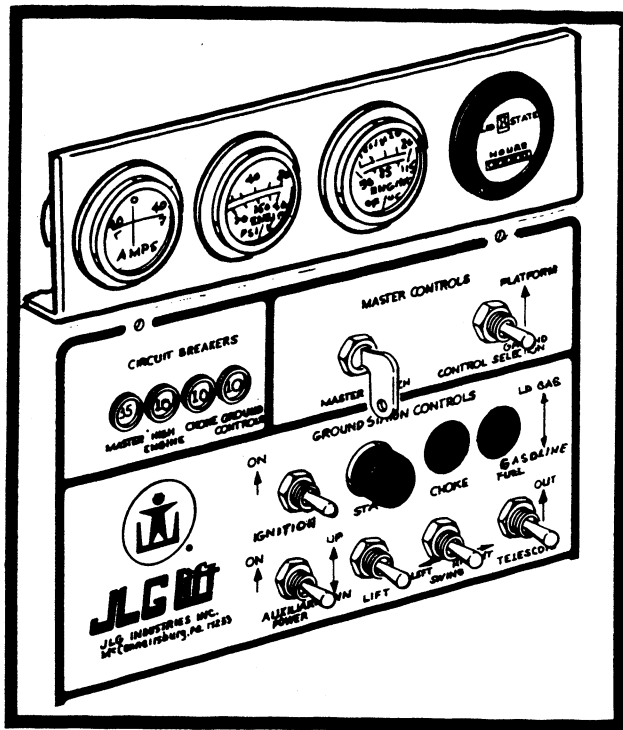

Figure 3-1. Ground Control Station.
a. GROUND STATION. (Figure 3-1.)